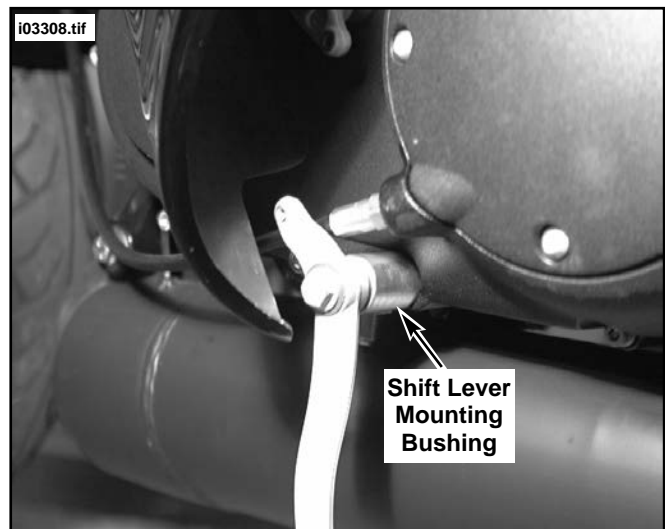

Figure 4. Shift Lever Assembly Installation (S3T Thunderbolt Shown)
9. See Figure 4. Apply Loctite 243 (Blue) to threaded end of bolt and install assembled shift lever bolt as shown to lower crankcase. Tighten to 27-29 ft-lbs (36.6-39.3 Nm).